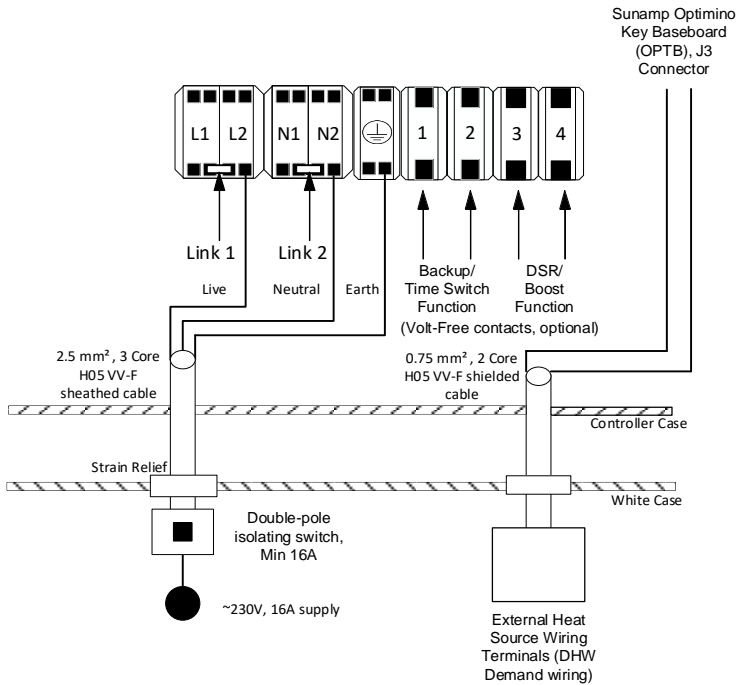

Figure 11 - Thermino xPlus Heat Battery wiring without solar power diversion
- Without Solar Power Diversion follow (Section 6.3.1, Figure 11)